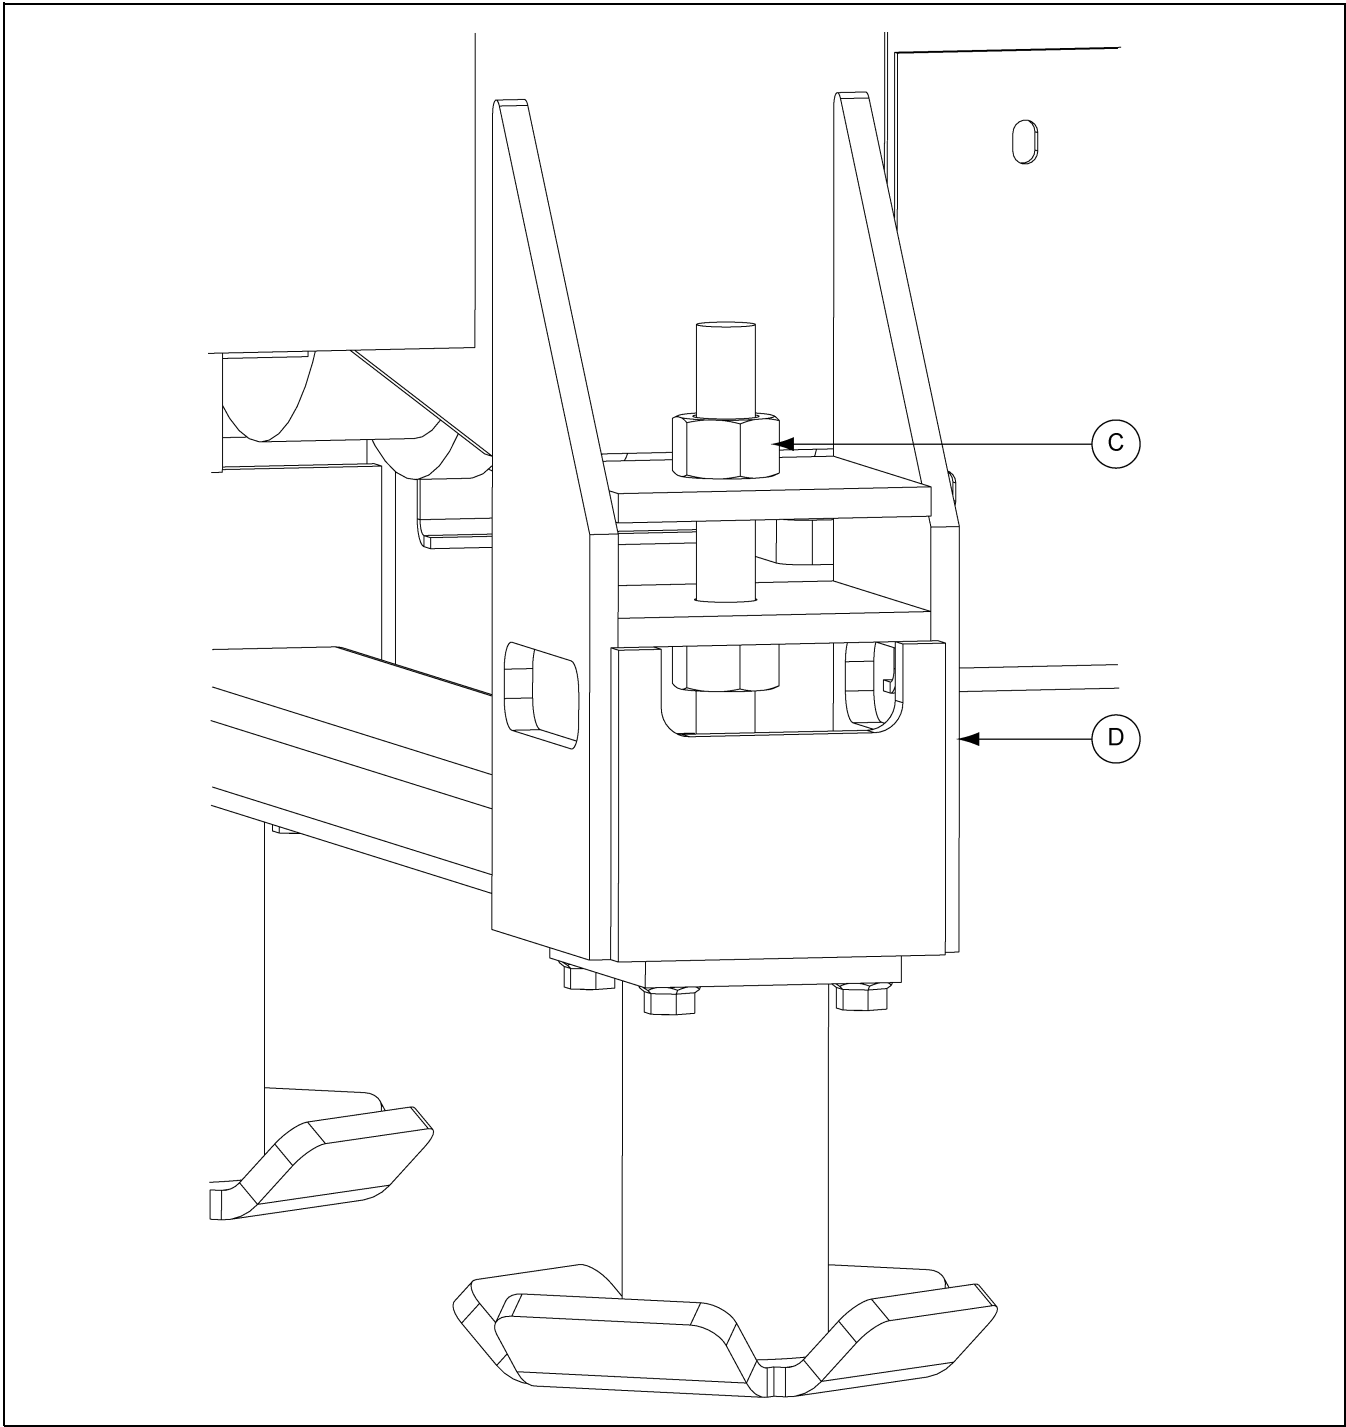

Figure 7X
2. Install skid to motor mount assembly (D) and install hex nut (C). (See Figure 7X.)